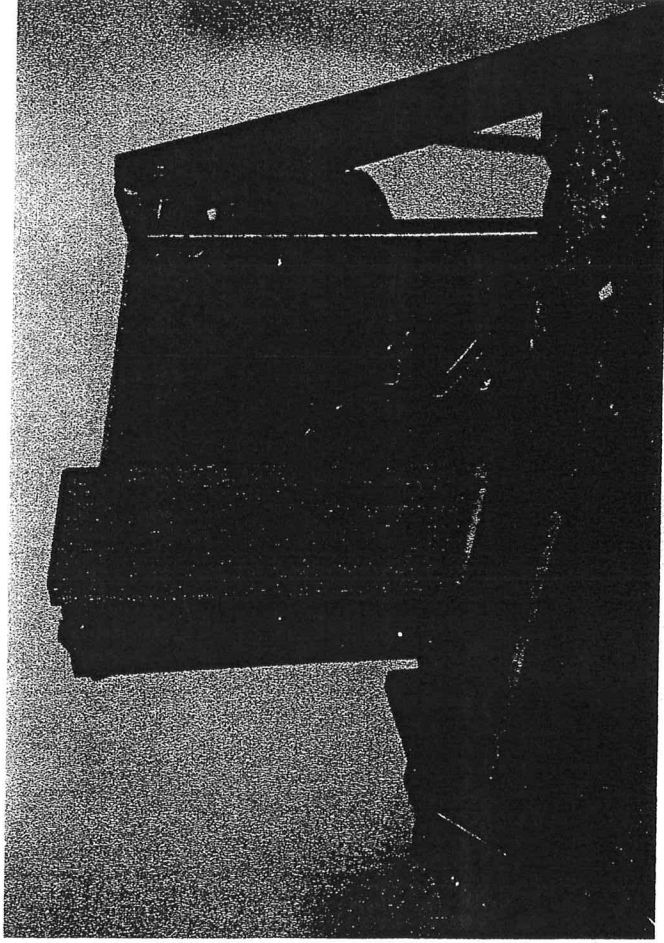

Fig. 22
6. Cut dovetail slots in both of the aprons. (fig. 22)